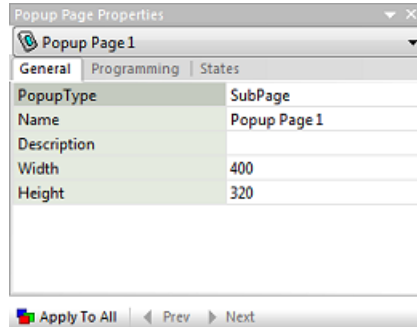

FIG. 91 Popup Type (General Property) - SubPage
2. In the Properties window (*General* tab), set the *PopupType* property to **SubPage** (FIG. 91):